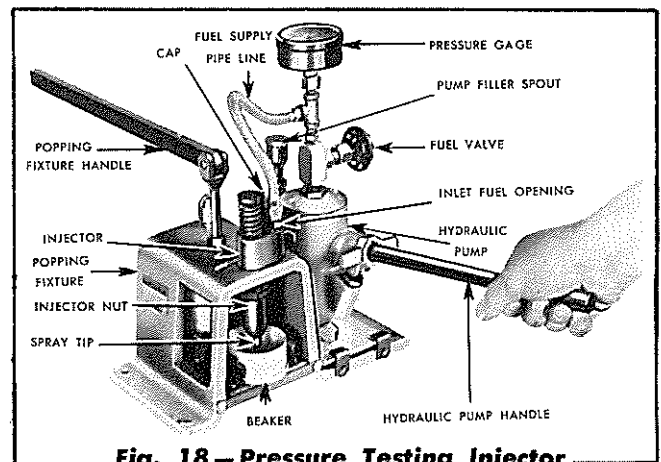

Fig. 18 — Pressure Testing Injector
2. The injector pressure test requires the use of a test fixture similar to that shown in Fig. 18. The injector is installed in the stand and a fuel line from the hydraulic pump is connected to the injector. A hydraulic gage registers the pressure required to spray fuel from the spray tip. Check this "popping" pressure by working the pump handle up and down with smooth even strokes, at the same time watching the pressure gage and noting at what pressure the spray tip valves open. This pressure should be between 1000 and 1400 pounds per square inch.